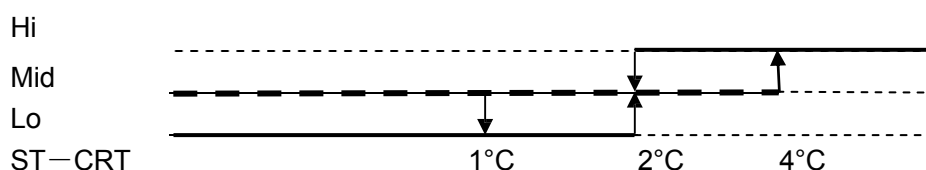

Figure 2 Heat automatic airflow
- b. Indoor fan motor automatic airflow speed control, it works as shown in Figure 2: